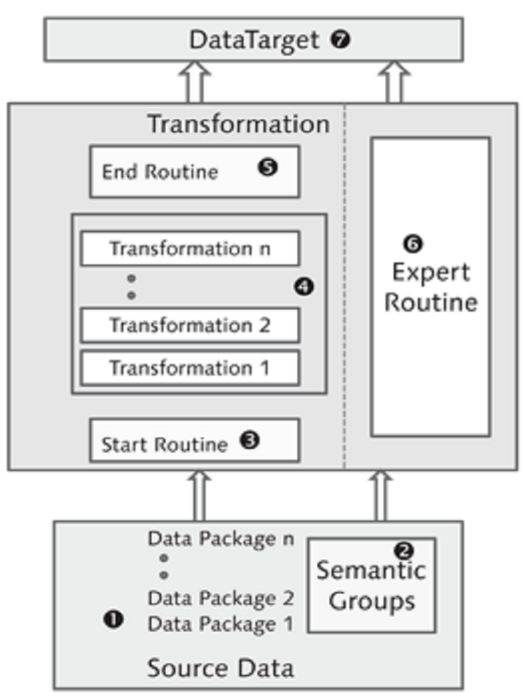

Figure 7.23 Overview of Transformation Process
Before being transformed, each record passes through a *start routine*, as shown in ④ of Figure 7.23. The start routine is a place where a developer can write ABAP code that transforms the data within a record, according to requirements. The developer can work on a complete data package, defining variables, internal tables, and the values of both. The technique of filling internal tables in the start routine and then accessing them for individual transformation is a standard way to improve performance. The start routine is optional when defining transformation.
Data packages pass though start routines before passing through individual transformations, and through *end routines* (in ❺ of Figure 7.23) after all transformations are